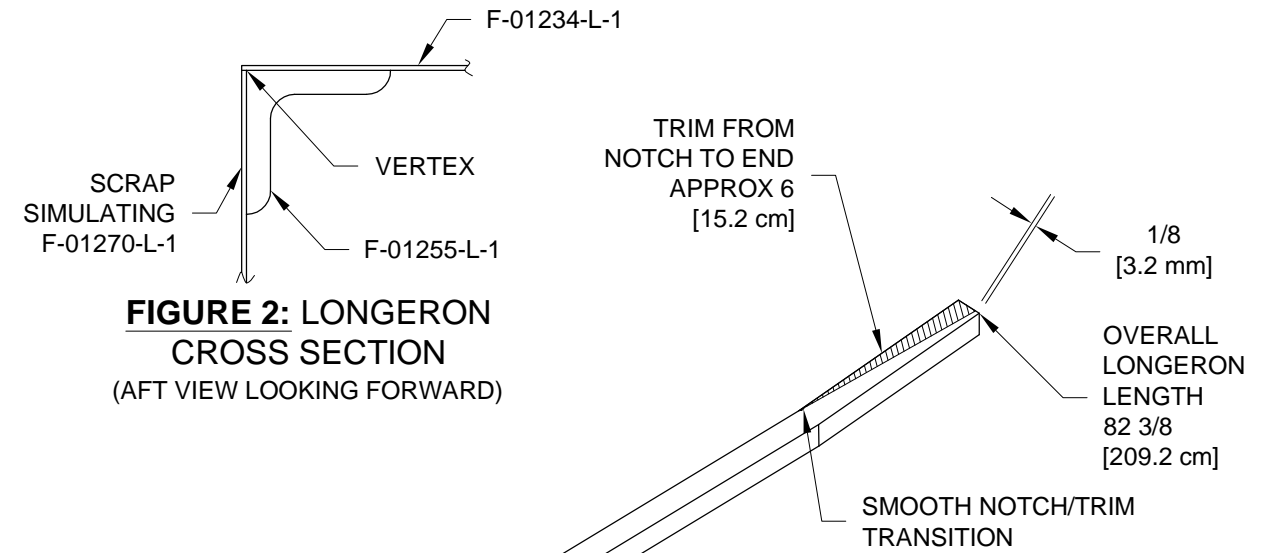
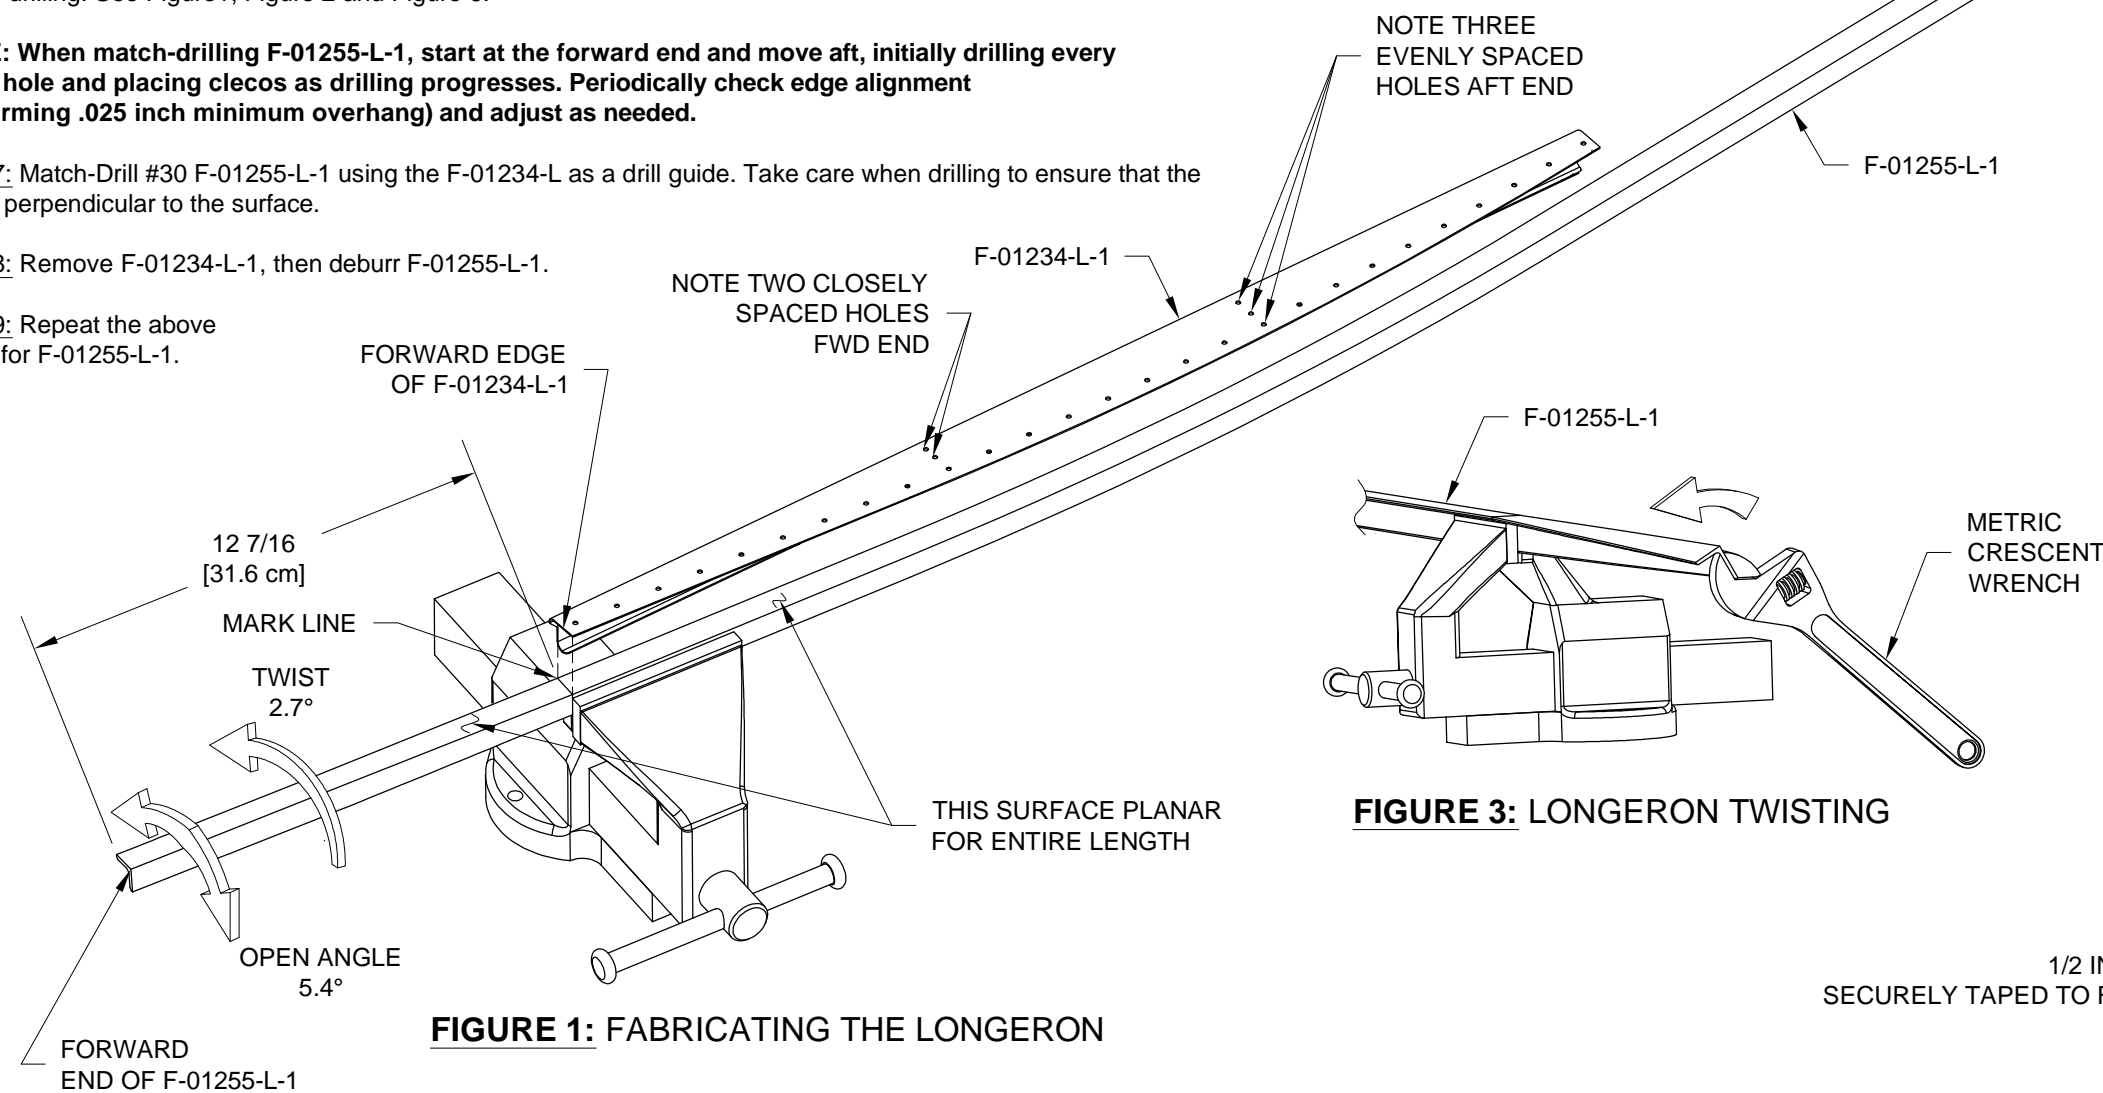
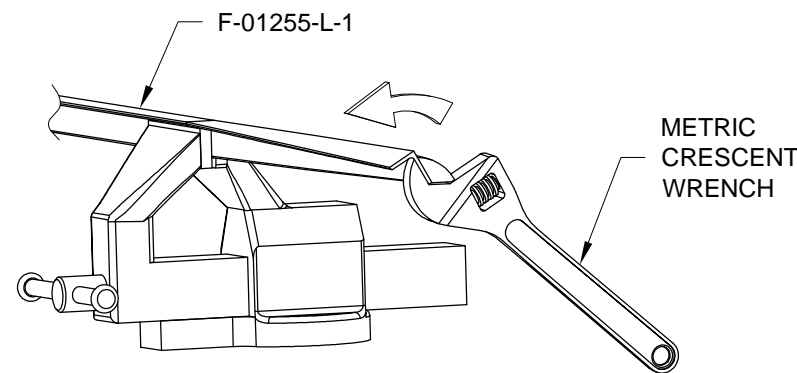
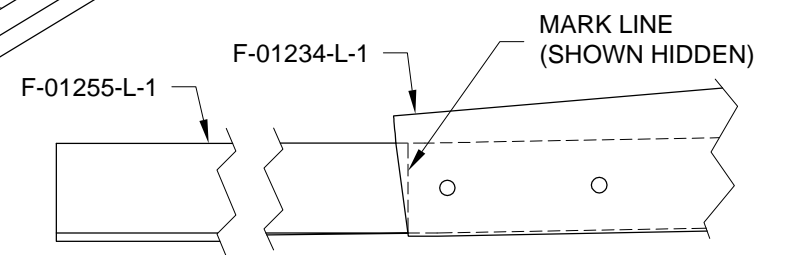

FIGURE 2: LONGERON CROSS SECTION (AFT VIEW LOOKING FORWARD)
FIGURE 1: FABRICATING THE LONGERON
FIGURE 3: LONGERON TWISTING
FIGURE 6: MATCH-DRILL POSITION (TOP VIEW)
Step 4: Clamp F-01255-L-1 in a padded vise at the marked line as shown in Figure 1. Use a crescent wrench, as shown in Figure 3, to twist F-01255-L-1 inboard per the dimensions in Figure 1. The twist should be progressive from no twist at the marked line to the full amount at the forward end of the longeron.
Step 6: Position F-01234-L-1 and F-01255-L-1 as shown in Figure 2. Use a scrap piece of .025 thick aluminum to simulate F-01270-L-1. F-01234-L-1 overhangs F-01255-L-1 by .025 inches.
With the forward edge of the F-01234-L-1 intersecting the marked line on F-01255-L-1 as shown in Figure 6, clamp F-01234-L-1 to F-01255-L-1 for match-drilling. See Figure 1, Figure 2 and Figure 6.